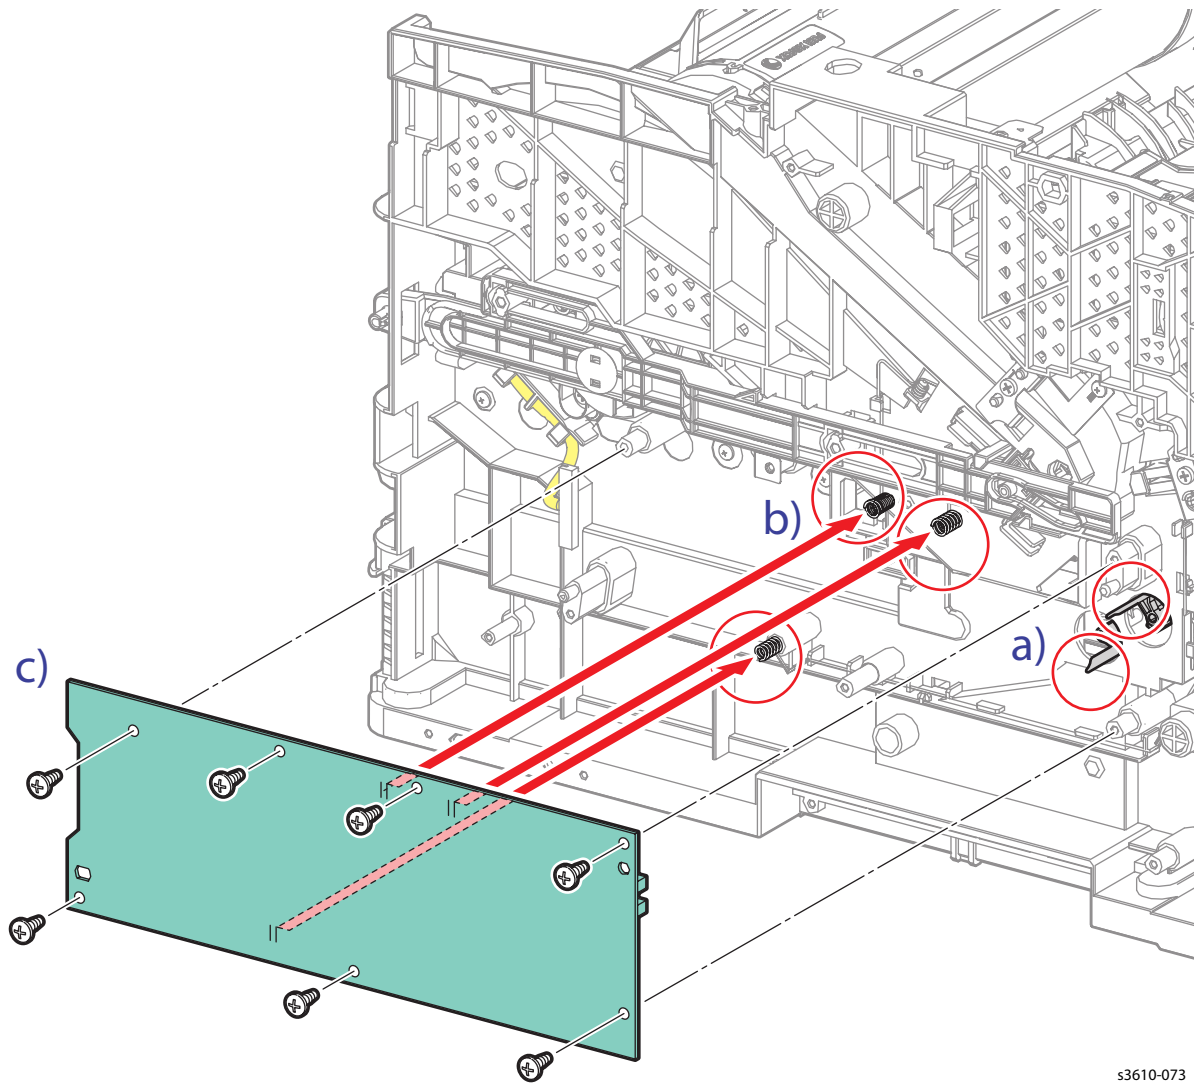

Figure 2
1. When installing the HVPS, confirm: (Figure 2)